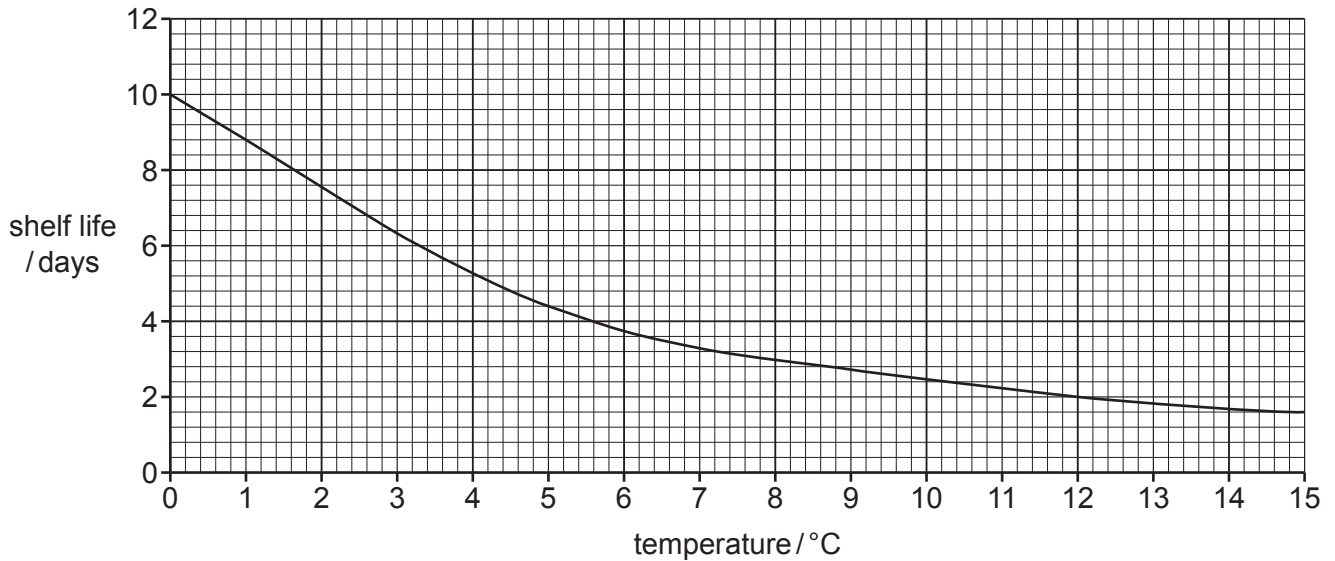

Fig. 2.1
Fig. 2.1 shows the results of an investigation into the effect of temperature on the shelf life of seabream.
- (i) Use Fig. 2.1 to determine the increase in shelf life of seabream stored at 0 °C compared to seabream stored at 12 °C.